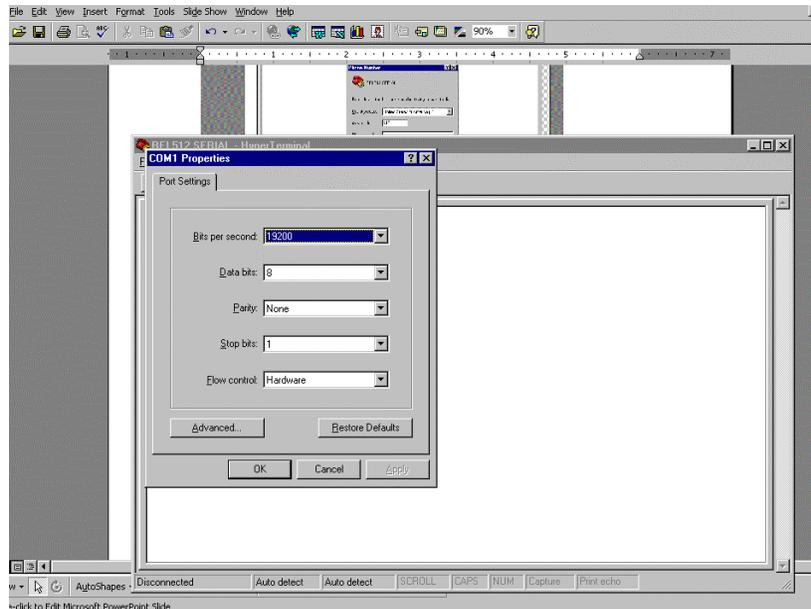

Figure 46. COM Port Settings Configuration Screen
5. Once the OK pushbutton is depressed, the screen depicted in Figure 46 is presented to the operator. AT commands can now be typed to configure the modem with the appropriate parameters for operation in this system.